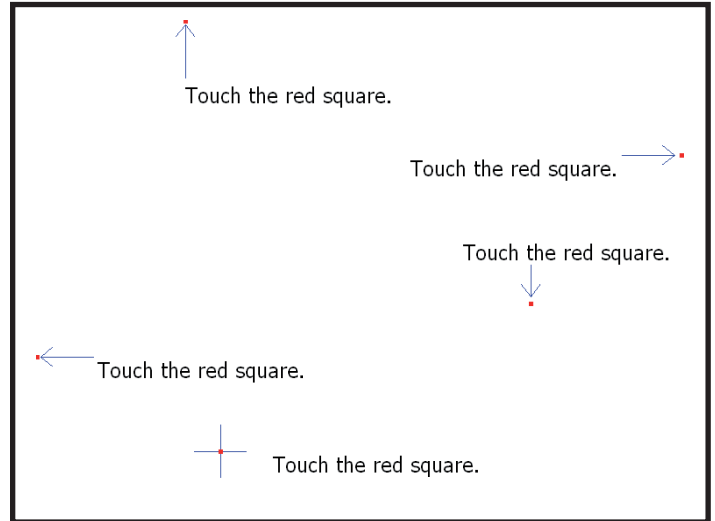

Figure 72
11. Repeat step 9 for each of the red boxes as they appear (Figure 72).